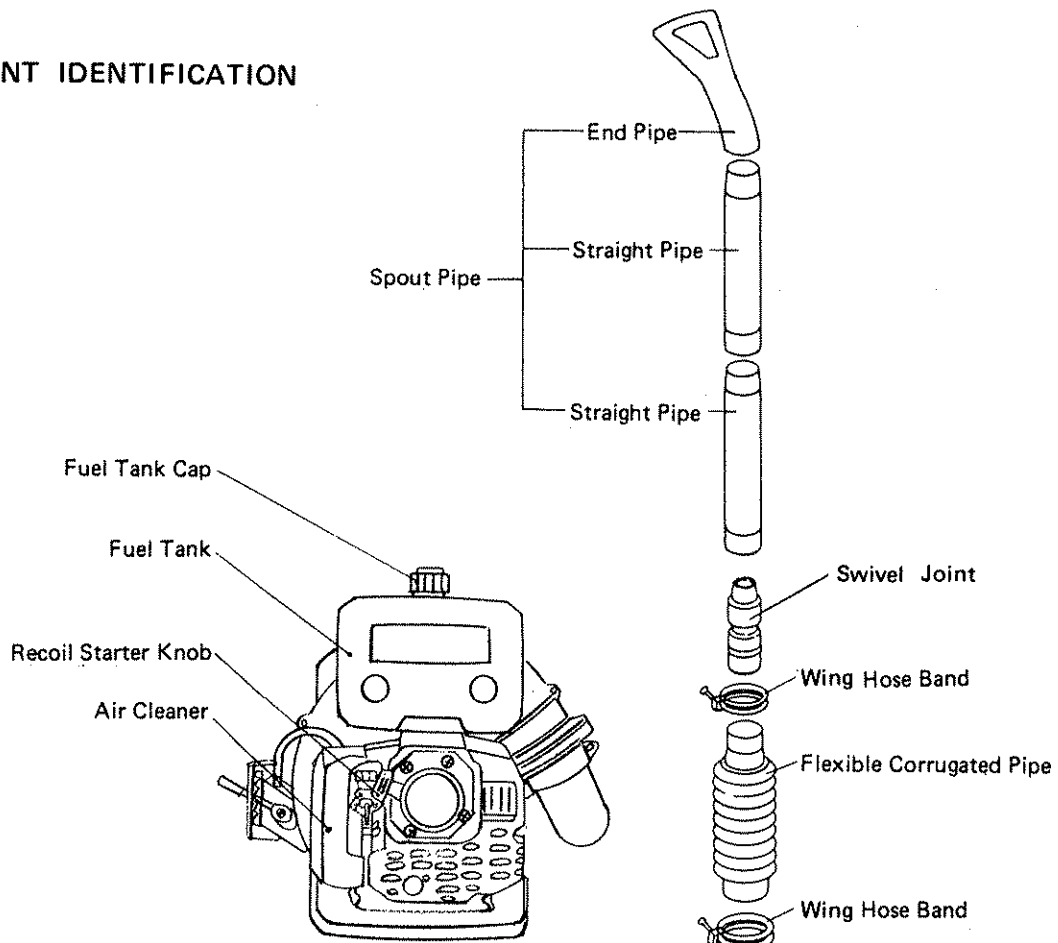

Figure 1
3. Assemble blower pipes. (Fig. 1)